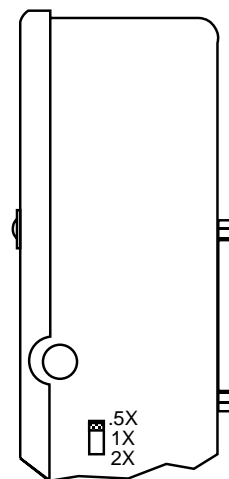

Figure 35. LN-cooled Camera Gain Switch Settings
- Gain for an LN-cooled VersArray camera is via a gain control switch on the side of the electronics enclosure (see switch positions in Figure 35).